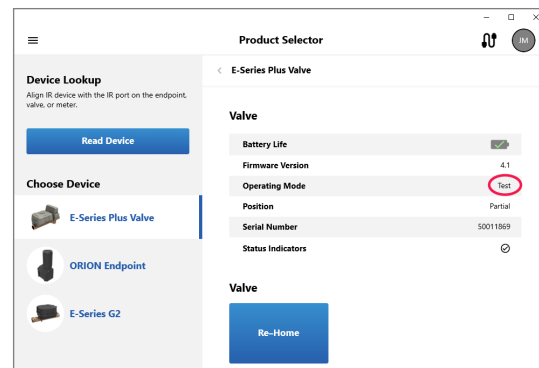

Figure 26: Test Operating Mode
3. Select **< E-Series Plus Valve** to go back to the E-Series Plus Valve main screen. Then select **Read Device** again to see the updated operating mode on the screen (Figure 26).